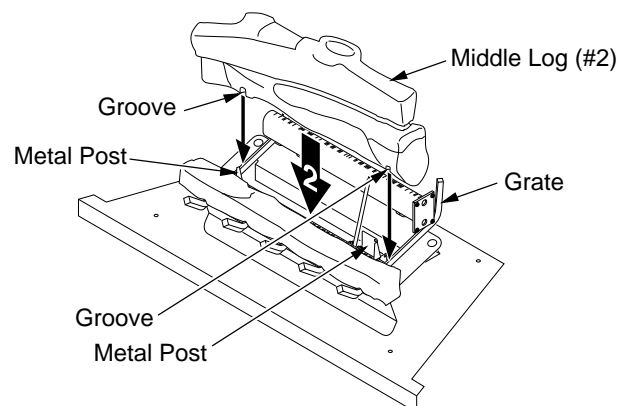

Figure 24 - Installing Middle Log (#2)
2. Rest middle log (#2) behind metal posts on front burner. Make sure the grooves in the bottom of the log fit over the grate (see Figure 24). Bring the log forward next to the metal posts.